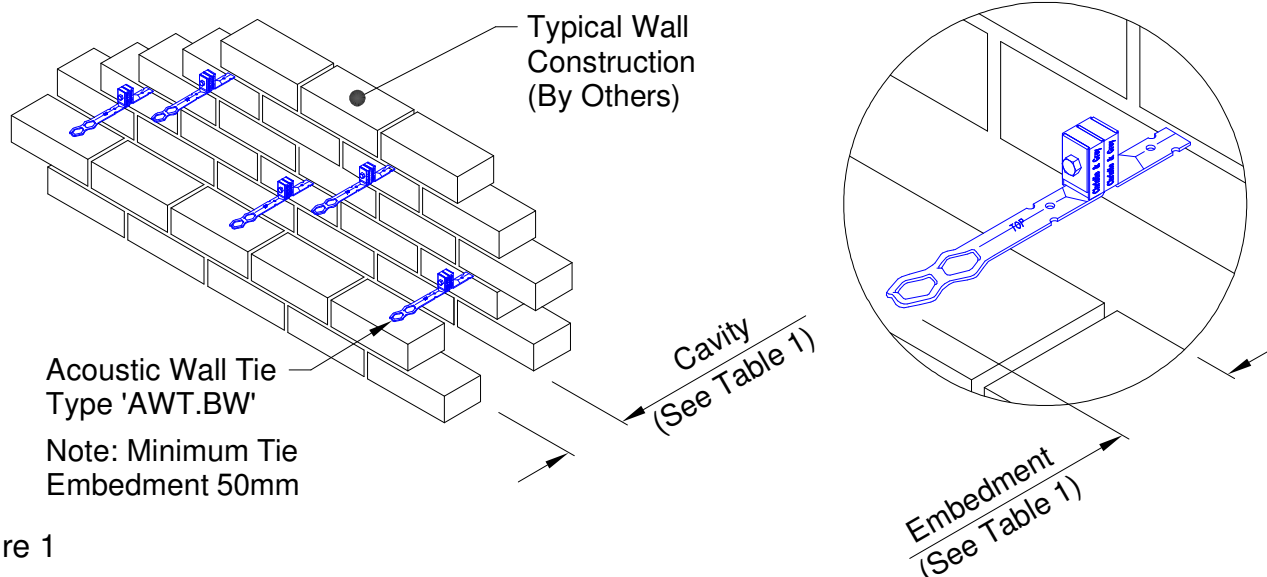

Figure 1
- 1) Bed masonry tie of acoustic wall tie type AWT.BW into mortar of wall construction. Ideally inner and outer walls should be built up together to ensure alignment of acoustic wall ties to opposing brick/blockwork coarses (See Figure 1). (Note: Recommended maximum acoustic wall tie spacings are 450mm intervals vertically, 900mm intervals horizontally, positioned in a staggered pattern with additional ties at doors, windows and changes of direction).